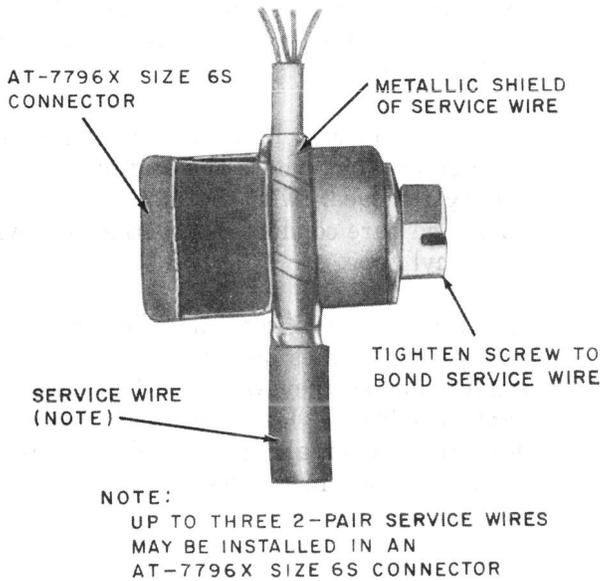
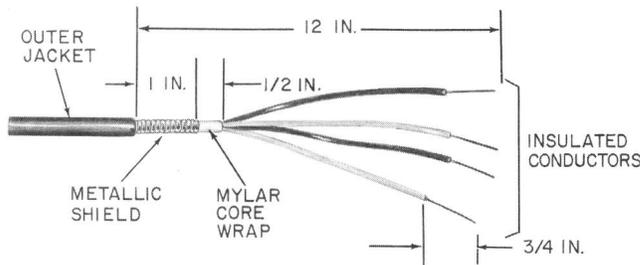
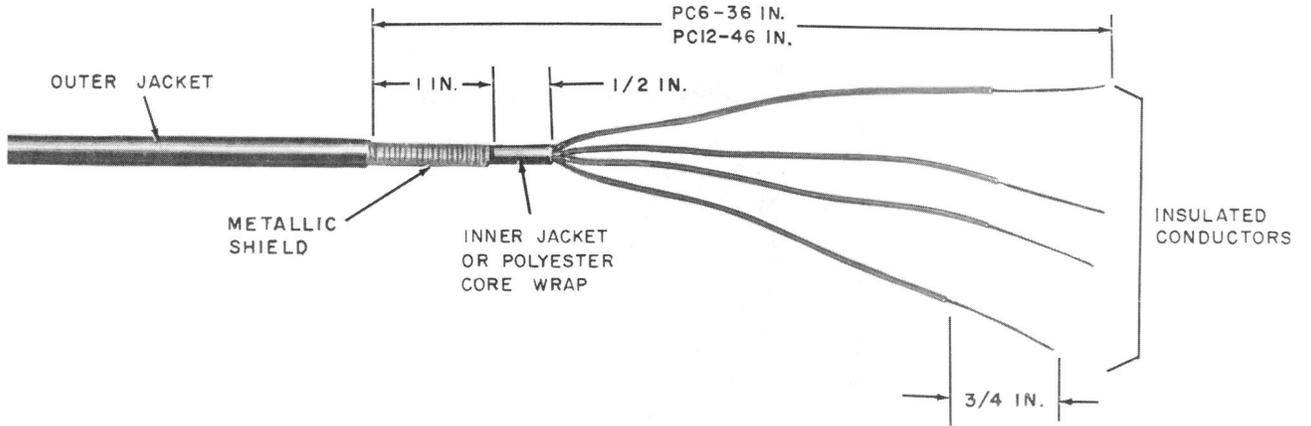

Fig. 4—Service Wire Installed in AT-7796X Connector
Fig. 7—Prepared Service Wire—RC4/72 Cable Closure
Fig. 9—Prepared Service Wire—PC6/48 or PC12/55 Cable Closure
3.02 Install the metallic shield of the filled service wire in the AT-7796X (Fig. 4) and tighten the screw.
4.01 Prepare service wire as shown in Fig. 7 and install the metallic shield in the AT-7796X connector as shown in Fig. 4.
4.03 Prepare the service wire as shown in Fig. 9 and install the metallic shield in the AT-7796X connector as shown in Fig. 4.
5.05 Route service wire in E cable closure and secure in place with AT-7796X connector as shown in Fig. 4.